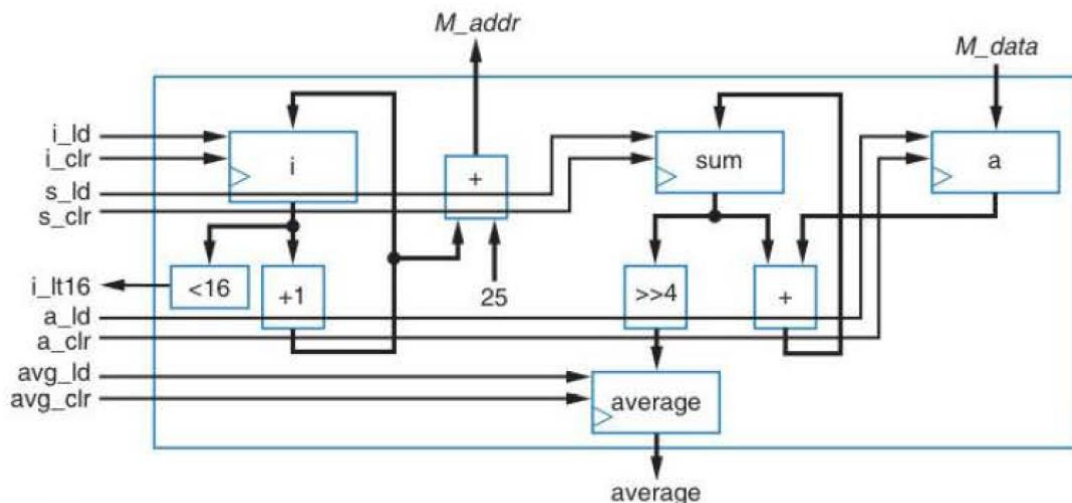

Figure 5.100 Datapath capable of computing the average of 16 elements of an array.
5.16 Create an FSM that interfaces with the datapath in Figure 5.100. The FSM should use the datapath to compute the average value of the 16 32-bit elements of any array A . Array A is stored in a memory, with the first element at address 25, the second at address 26, and so on. Assume that putting a new value onto the address lines M_addr causes the memory to almost immediately output the read data on the M_data lines. Ignore overflow issues.